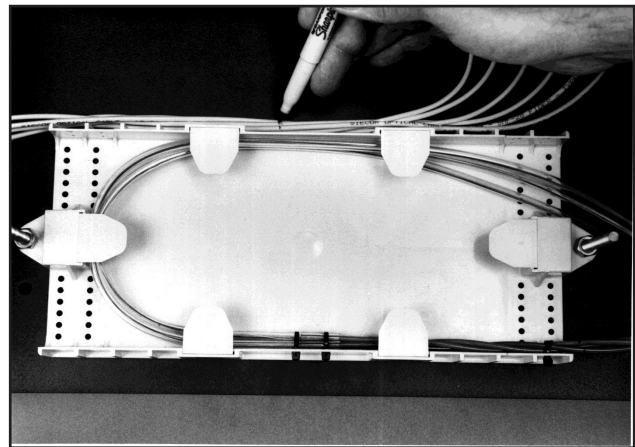

FIGURE 6 - MARK THE PIGTAILS
7.05 Mark the jacket of each of the pigtails at a point 2" beyond the bending radius as shown in Figure 6.